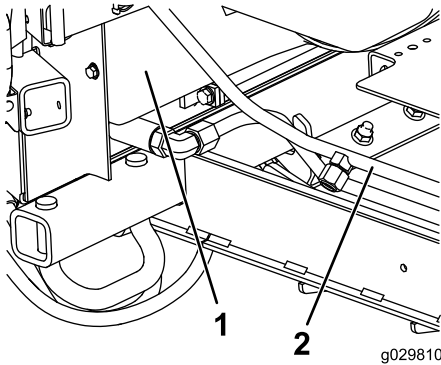
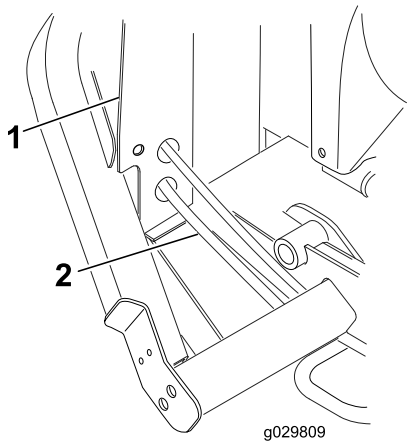

Figure 13
Figure 14
1. On the right side of the machine, just ahead of the radiator frame, place a drain pan under the oil-cooler-return hose (Figure 13 or Figure 14).